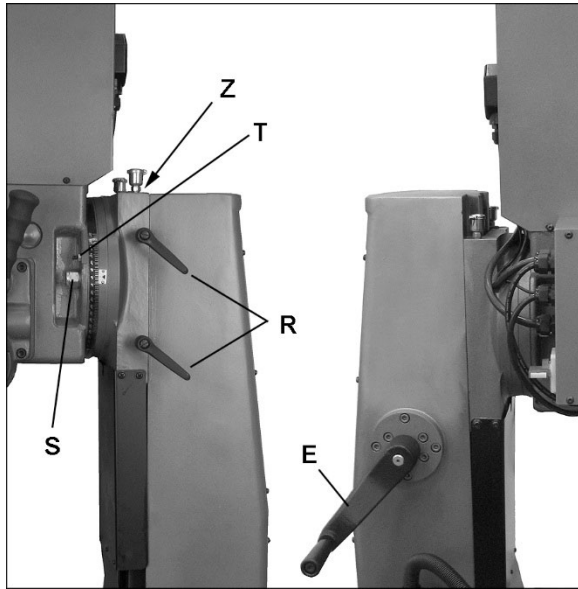

Figure 7-2: head adjustments
1. Slide crank (E) onto shaft of column (see Figure 7-2) and tighten set screw. Make sure set screw seats on flat part of shaft.
2. Thread small handle (D) into crank and tighten nut.
3. Slide handwheels (A) onto shafts at front and both ends of table. If needed, tap with rubber mallet to seat handwheels onto shafts. Tighten set screws.
4. Thread a small handle (D) onto each handwheel and tighten nut.
- Loosen lock handles (R, Figure 7-2) and raise head by turning crank (E) clockwise to remove shipping block from table.
See Figure 7-2.
A Z-axis gib adjustment screw is located atop the square column near oil cup (see Z, Figure 7-2). Follow same principle as described under *sect. 7.4.1*. Slight drag should be felt when turning crank handle.